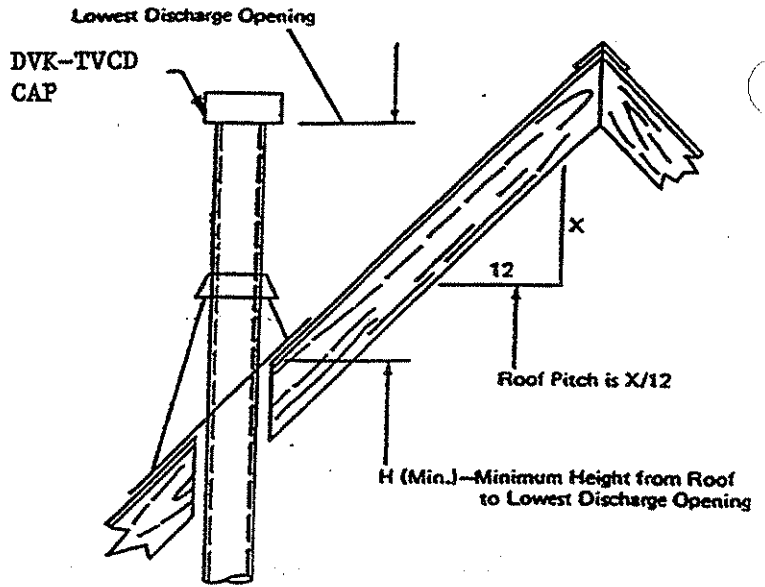

FIGURE 17
**WARNING:** Major U.S. building codes specify minimum chimney and/or vent height above the roof top. These minimum heights are necessary in the interest of safety. Figure 17 and Table 8 show minimum heights, provided the termination cap is at least 8-feet from a vertical wall.